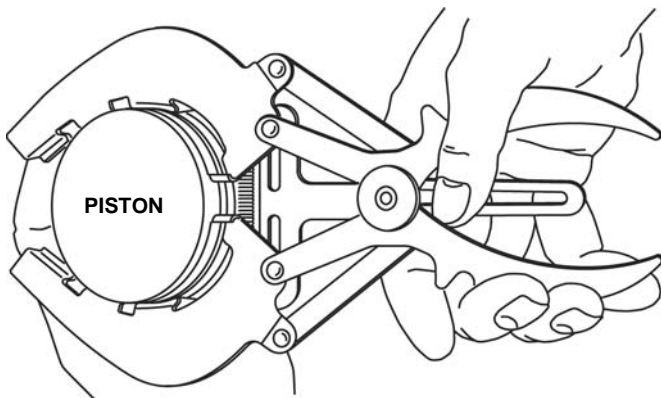

Fig. 73
1. Remove piston top and center rings using ring expander, Tool #19340, Fig. 73.